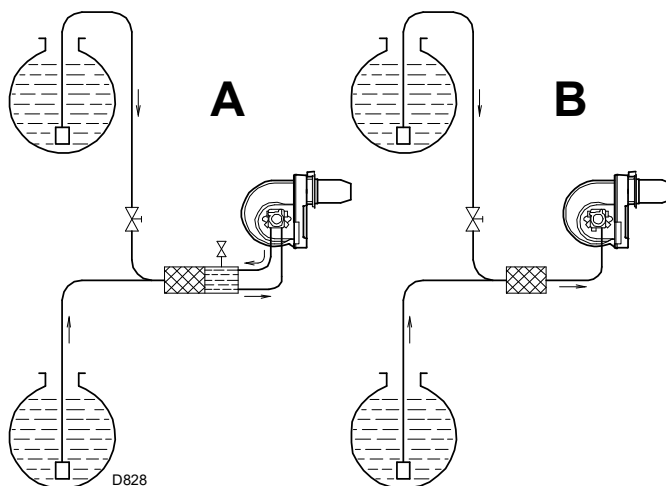

Fig. 15
- Pump external by-pass (**A**, Fig. 15) (recommended)
- Pump internal by-pass (**B**, Fig. 15)